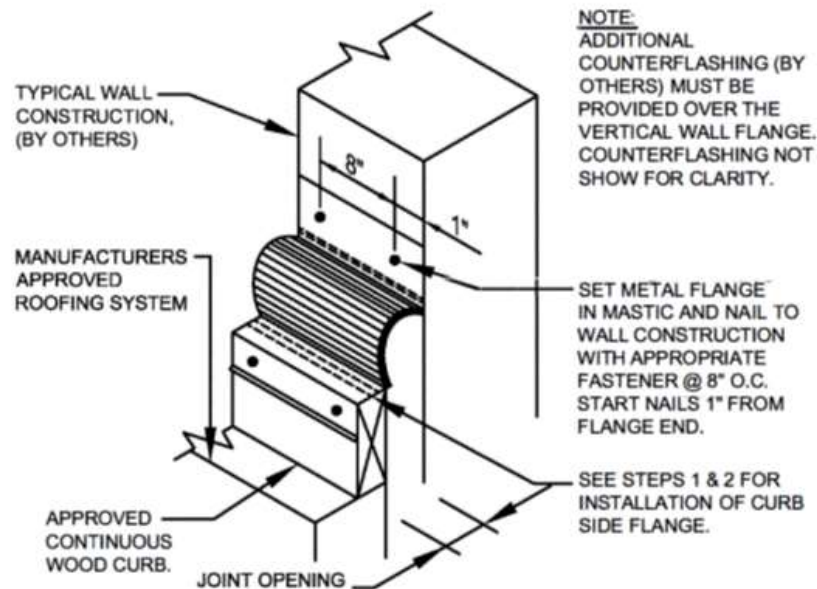

Figure 7
7. Set wall flange in membrane compatible mastic and nail to wall construction w/ (1) appropriate fastener at 8" o.c. start fasteners 1" from flange end. **See Figure 7**